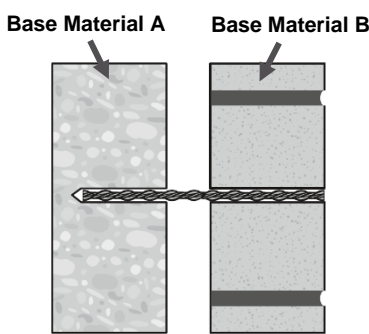

Figure 1
- 1. Strengthening of the connection between masonry façades and inner walls:** Once the holes have been drilled through Base Material B and into Base Material A, the dedicated setting tool is used to drive the Heli-Brick into the two base materials (Figure 1). The Heli-Brick transfers the load from Base Material B to Base Material A via keying.
- 2. Strengthening of horizontal joints in masonry facades and inner walls:** In the wall that needs strengthening (Base Material B) the mortar in horizontal joint is removed to allow the positioning of the horizontal rod. In the joint perpendicular to the wall face, holes are prepared in Base Material B and Base Material A as prescribed per the operating instructions. The dedicated setting tool is then used to drive the Heli-Brick into the two base materials (Figure 1), and connectors are attached to the exposed ends of the installed Heli-Brick. Finally, additional Heli-Brick rods are woven through the holes of the connectors (Figure 2). This creates a net that keeps the façade in plane.